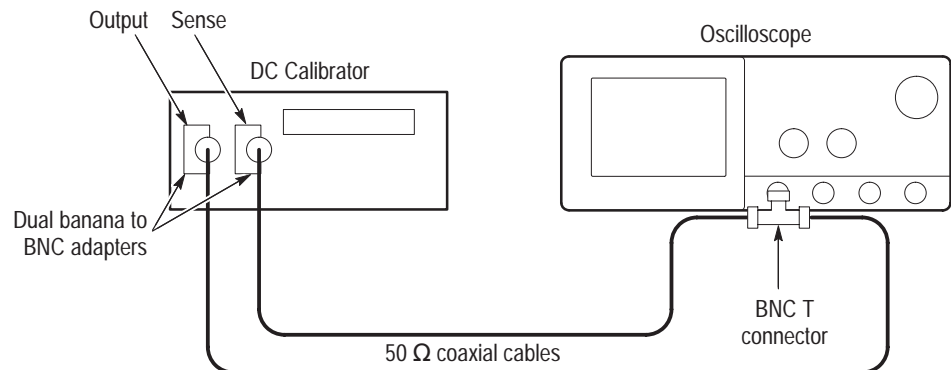

Figure 4-5: Initial test hookup
- Connect the output of a DC calibration generator through a dual-banana connector followed by a 50 Ω precision coaxial cable to one side of a BNC T connector. See Figure 4-5.
- Connect the Sense output of the generator through a second dual-banana connector followed by a 50 Ω precision coaxial cable to the other side of the BNC T connector. Now connect the BNC T connector to **CH 1**. See Figure 4-5.